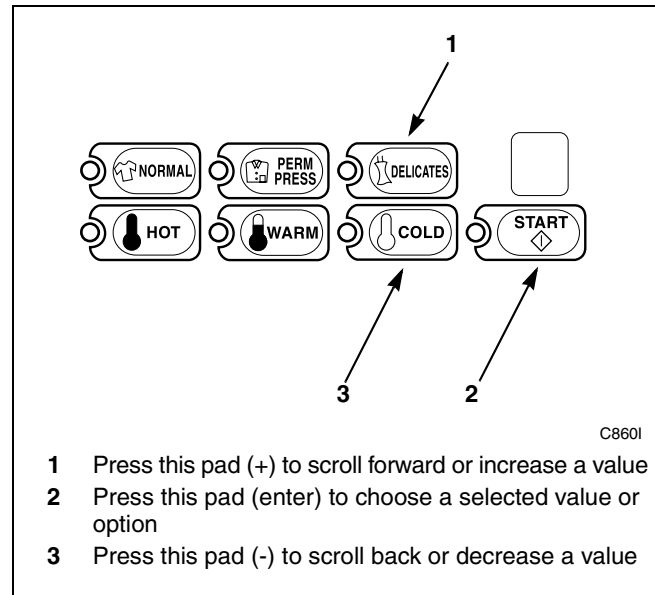

Figure 128
5. Press the DELICATES (+) or the COLD (-) keypad to increase or decrease the century until correct. Refer to *Figure 128*.